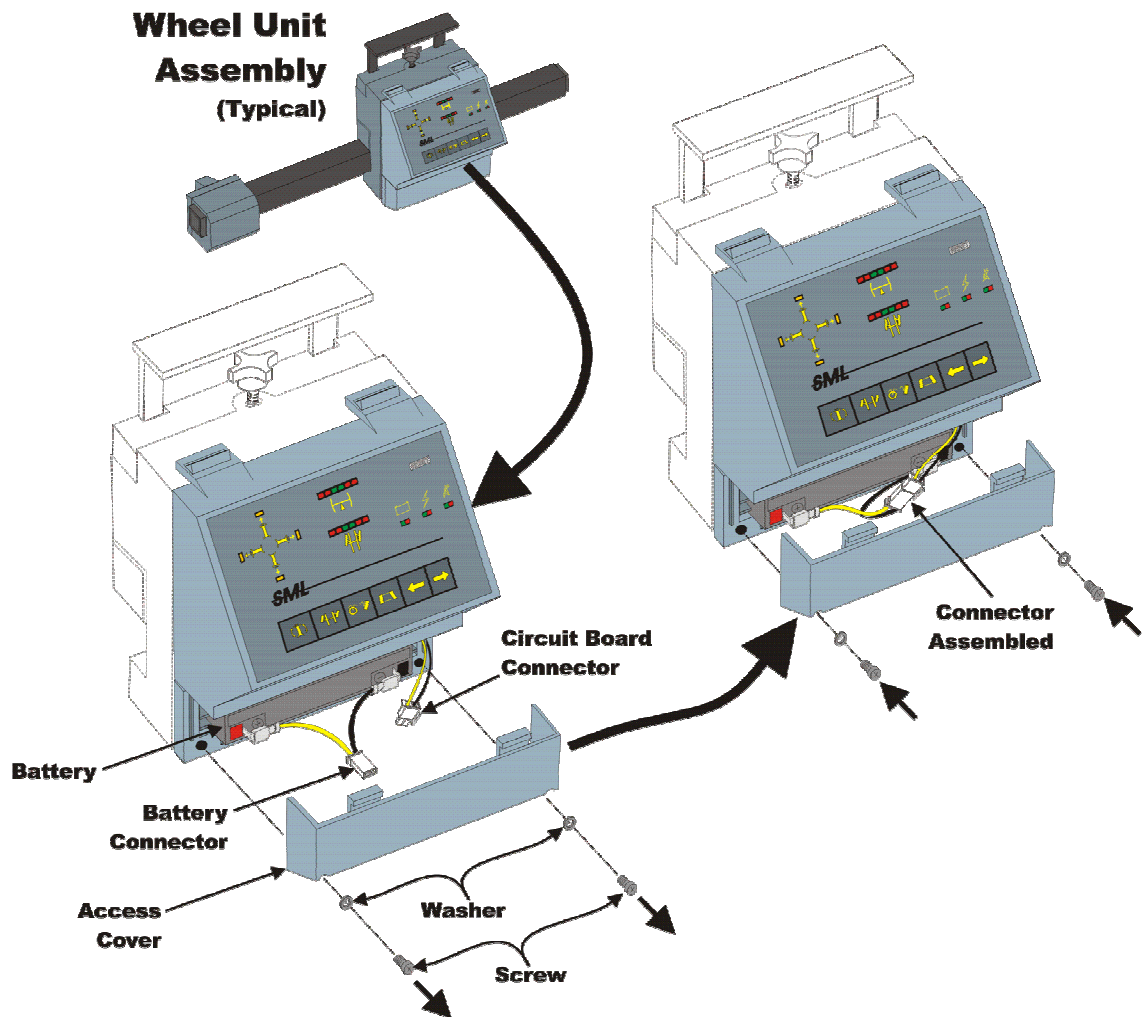

Figure 1-4. Wheel Unit – Battery Connection
- 1.2.5.1 Open the shipping container and remove all the wheel units. Prior to shipping, the wheel unit's battery(s) were disconnected. Once unpackaged, each unit is to be moved to a designated work area for battery connection. Use Figure 1-4 as a guide, as needed.